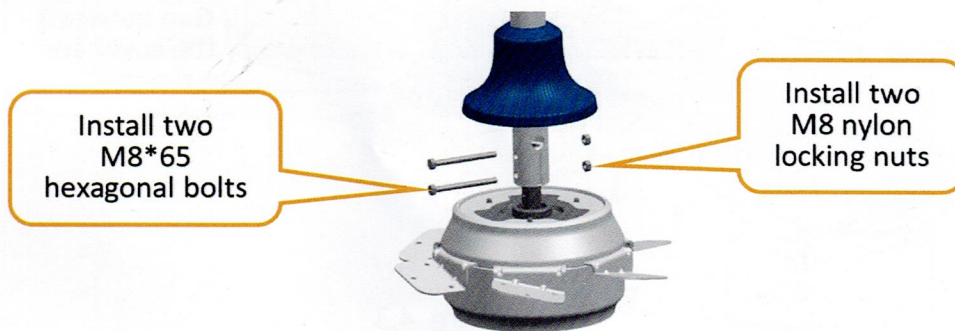

Figure. 4.1
① Insert the motor into the extension tube, align their installation holes. Then use two M8\*65 hexagonal bolts, flat washers, spring washers, and M8 nylon locking nuts to tighten the structure (see Figure 4.1)